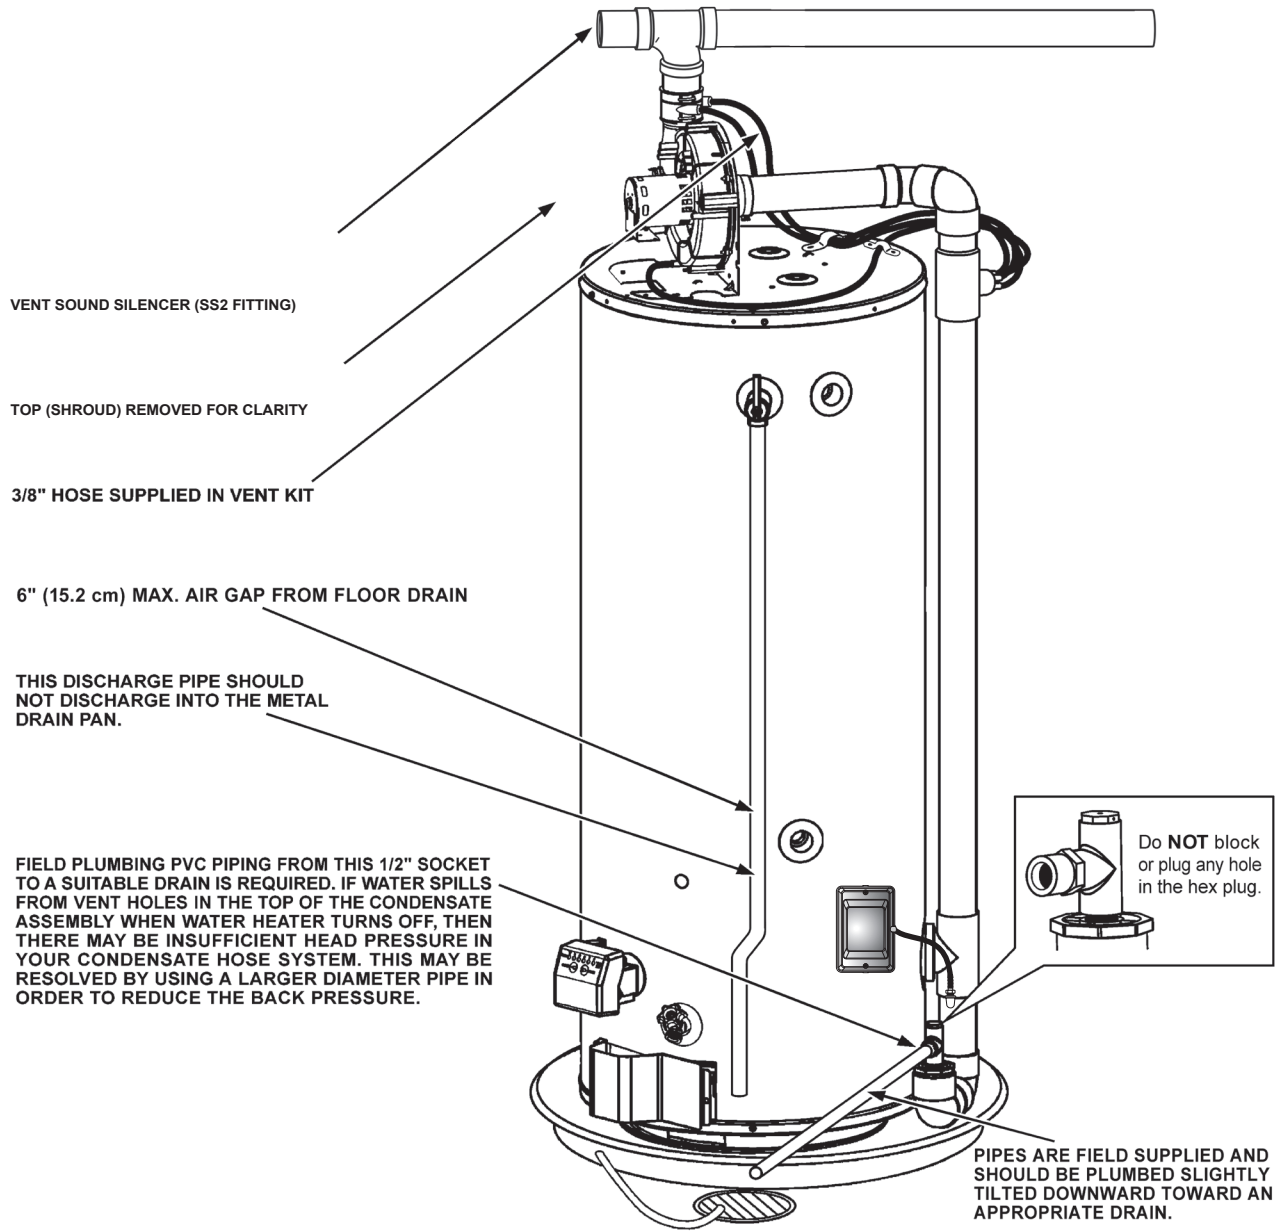

Figure 2. Features and Components - Left Side
5. Carefully plan the place where you are going to put the water heater. Correct combustion, vent action, and vent pipe installation are very important in preventing death from possible carbon monoxide poisoning and fires, see *Figure 1* (page 7) and *Figure 2* (page 8).